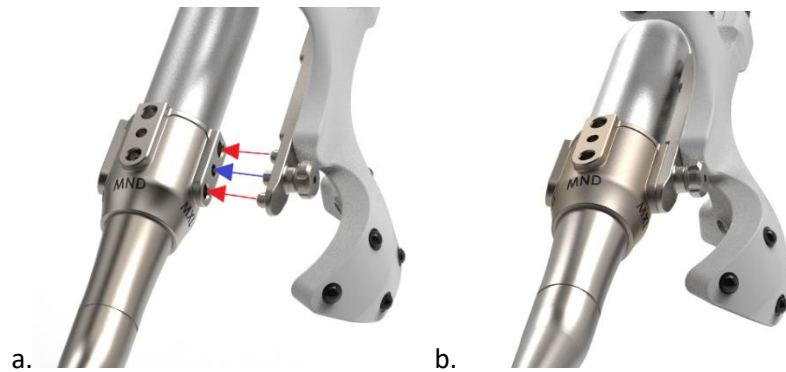

Figure 66: Connecting the Handpiece Tracker to the Handpiece with Thumb Screw
Follow the steps illustrated in *Figure 66: Connecting the Handpiece Tracker to the Handpiece with Thumb Screw*, below.
- On the Tracker Selection window, from the upper Available drop-down list, select the Handpiece Tracker, according to its serial number. Then, click the upper Arrow button to set your selection (see **Figure 66: Tracker Selection Window below**).